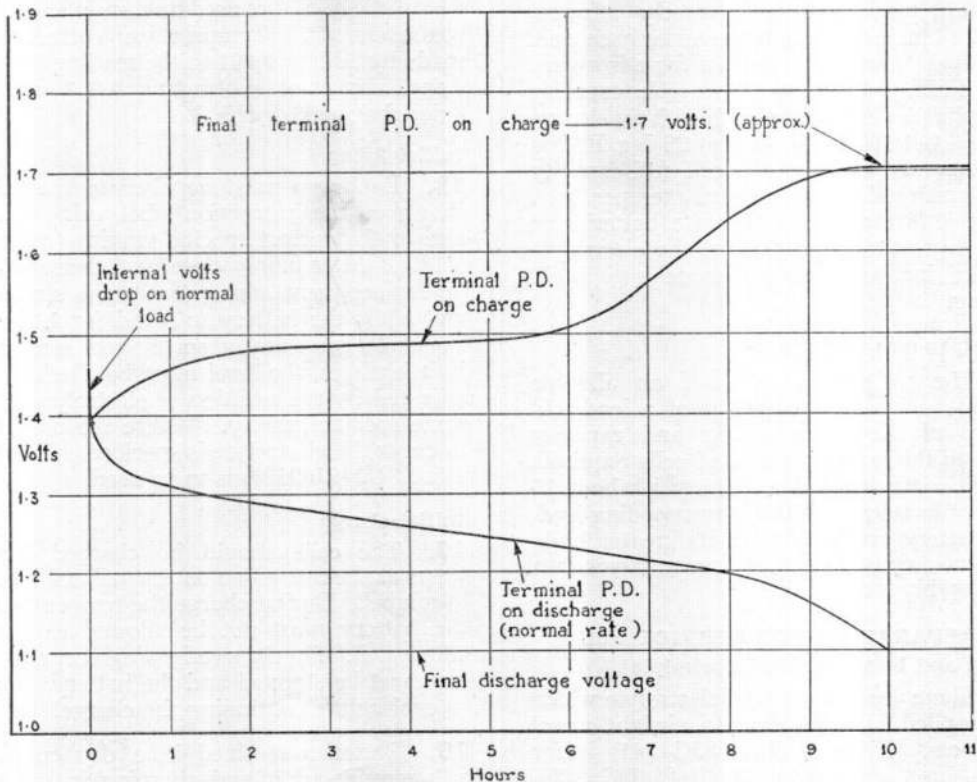

Fig. 3. Typical charge and discharge curves
9. Curves showing the voltage of a typical cell during charge and discharge are given in fig. 3. It will be seen that the voltage rises very gradually during the first two-thirds of the charge, but more rapidly towards the end of the charge, after which the rise in voltage is small. Since there are no direct indications of the state of charge, the charge must be continued until the voltage has reached a maximum and remained substantially constant for at least  $1\frac{1}{2}$  hours.